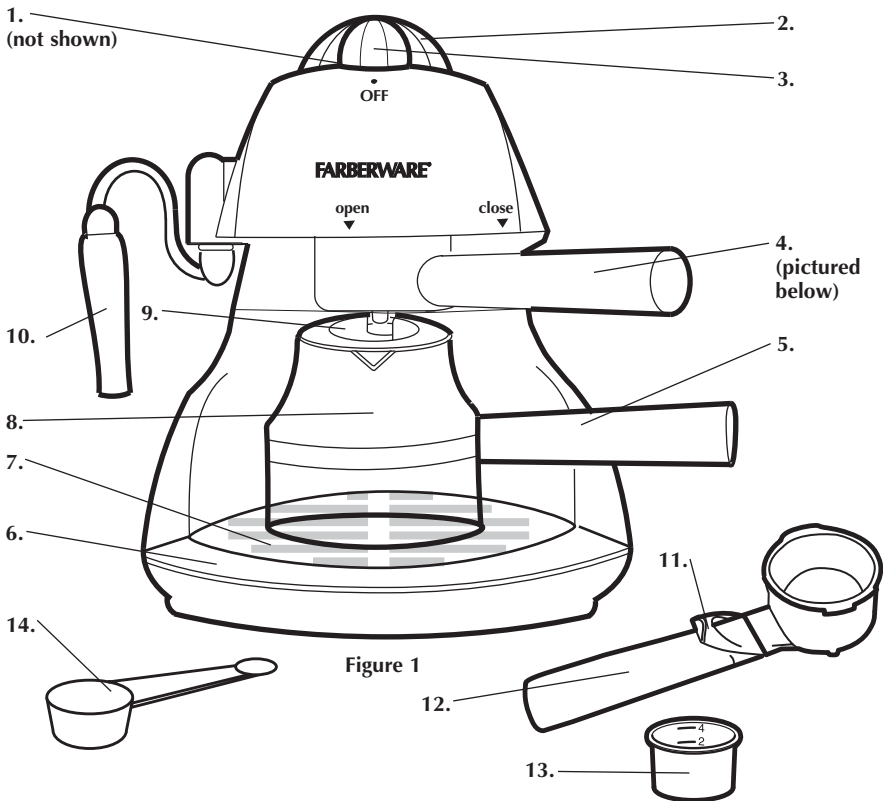

Figure 1
7. Slide the Glass Carafe with Lid onto the Drip Tray directly under the Spout of the Filter Holder (see Figure 1).